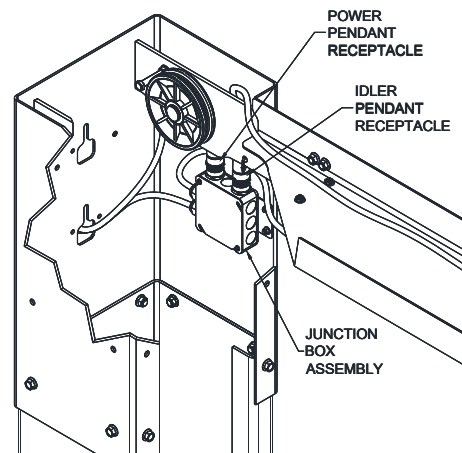

Fig. 14 – Junction Box Assembly
- 33) Attach both pendant end connectors to receptacles on junction box, **Fig. 14**.